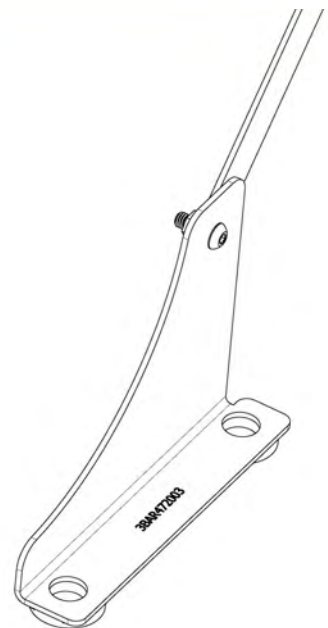

Figure 3
- C. Once in the vehicle rotate the barrier up and into position. Using (4) Button Head Screws [3X611], loosely secure the bottom flange of the barrier to the Barrier Support Brackets.
- D. Set the driver side Barrier Diagonal Support bar [3BAR472008] on the outside the Driver Side Barrier Bracket and loosely secure using (1) [3X611] screw and (1) [3X166] whiz nut (Figure 3).